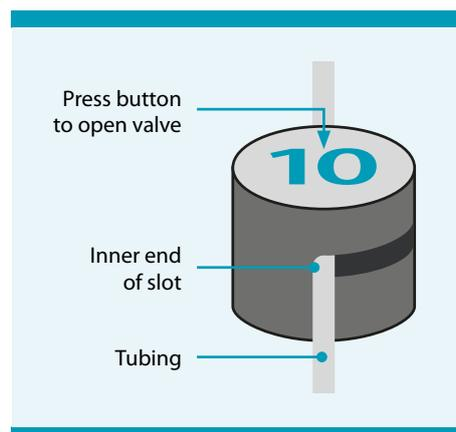

Figure 7.5: Correctly inserted tubing
- *If the tubing has to be adjusted after a valve has been closed, do not pull the tubing without pressing the valve button to open the valve (see Figure 7.5).*
1. Load the tubing into valve no. 4. Confirm that the tubing is placed securely in the valve opening (see Figure 7.5). Pay particular attention to the area between valves nos. 4 and 5 (see Figure 7.6) and keep the four-way fitting upright.